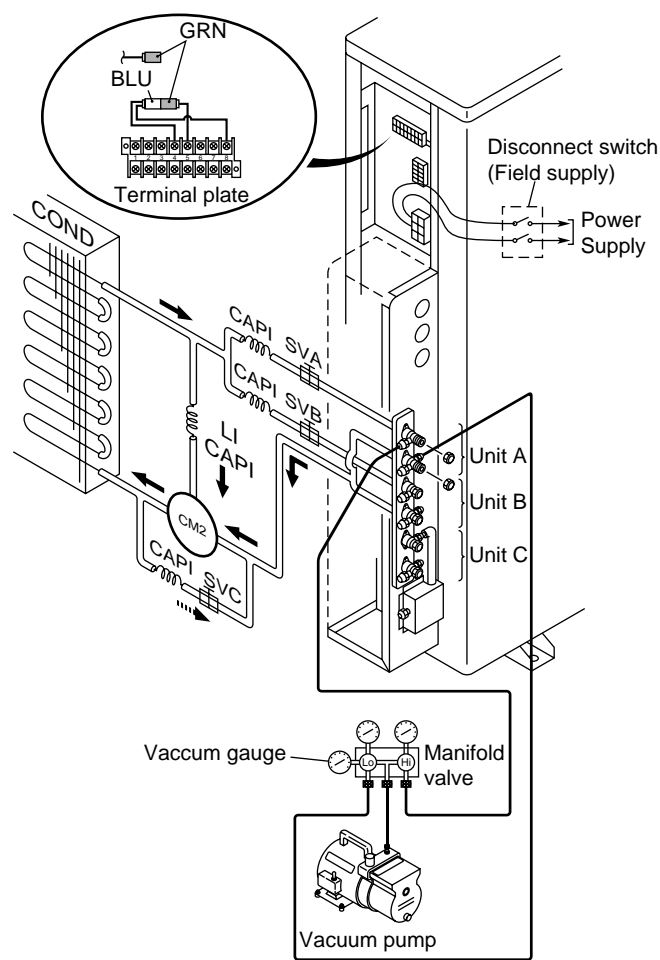

Fig.9-2
9-4-2. Connect the vacuum pump and a manifold valve as shown in either Fig.9-2 , depending upon the model. Confirm that all connections are correctly made.
- 9-4-4. Check that the blue/green connector is properly attached. (Fig.9-2)